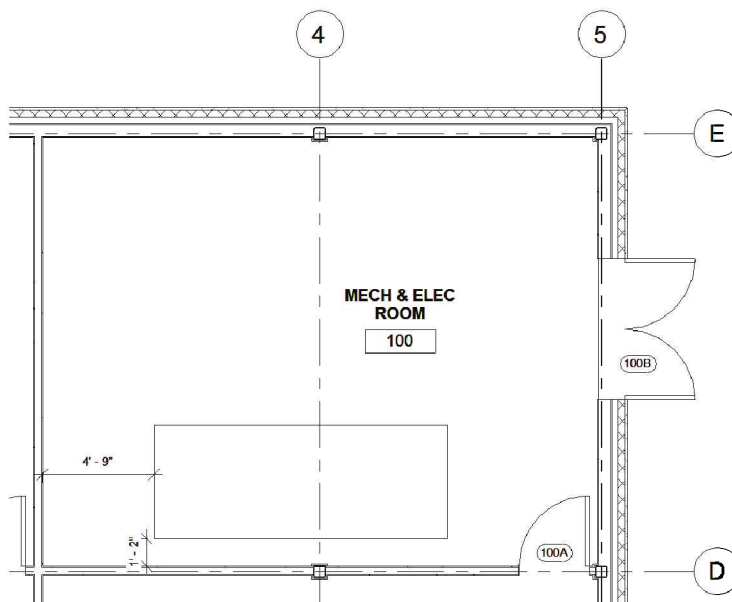

FIGURE 13-3.12 AHU placed. Do not add dimensions!
33. Adjust the location to match the dimensions shown in Figure 13-3.12. Do not add the dimensions.